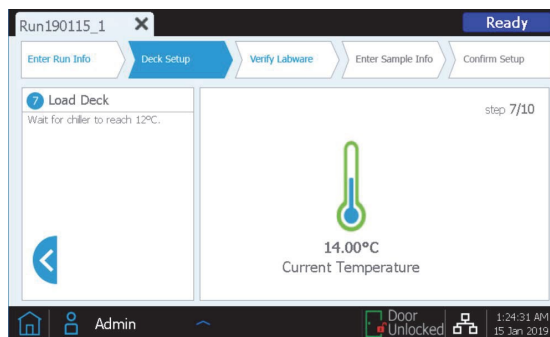

Figure 15. Step 7 of 10 of the Deck Setup screen of the Magnis NGS Prep instrument
- 07 The instrument's chiller module must reach a temperature of 12 °C before loading the Magnis instrument. If said temperature has not been reached at this point, the touchscreen will appear as shown in Figure 15. However, if the chiller has already reached the necessary temperature, this screen will not appear.